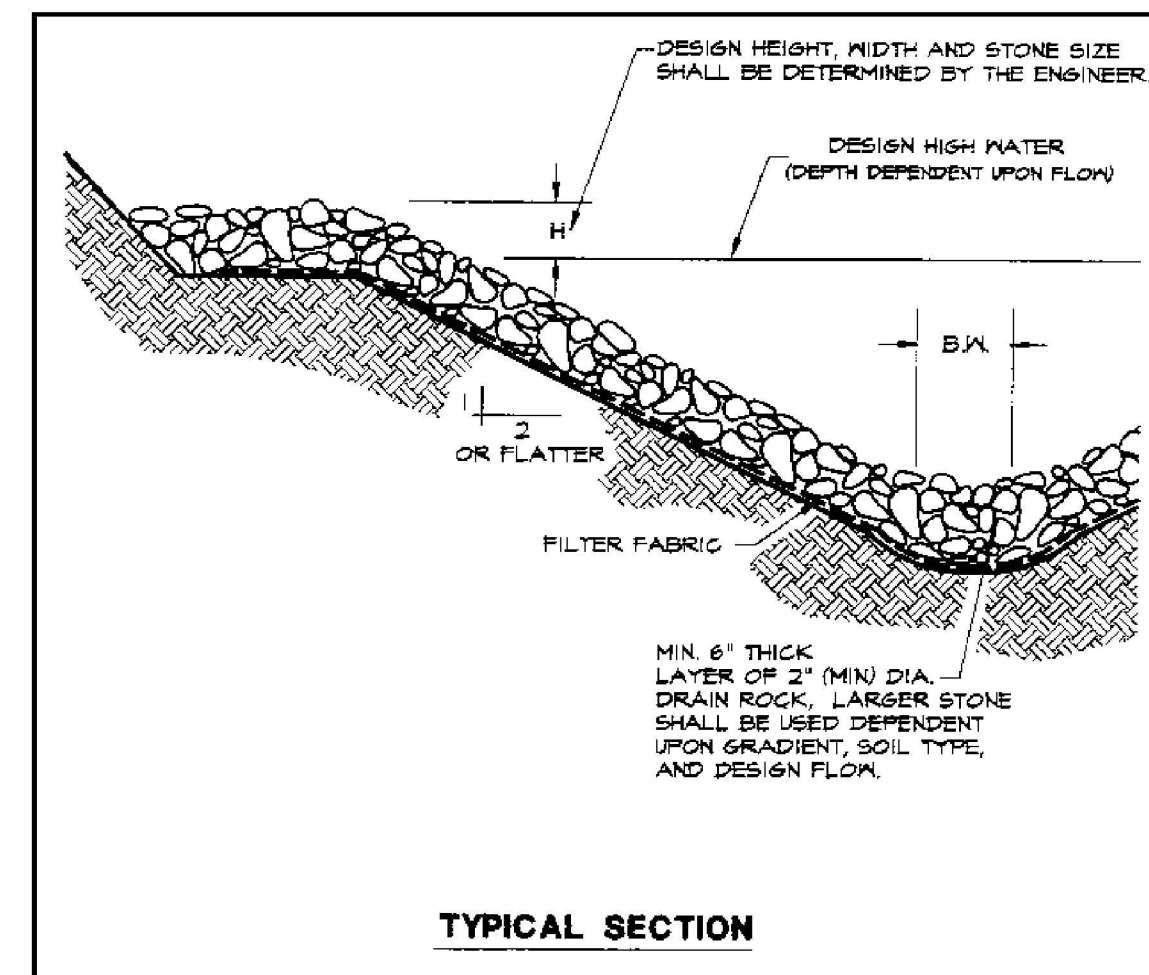

Figure 6.15a. Rock-Lined Channel
- To slow the velocity of concentrated runoff while enhancing the potential for infiltration (see Figure 6.15a).